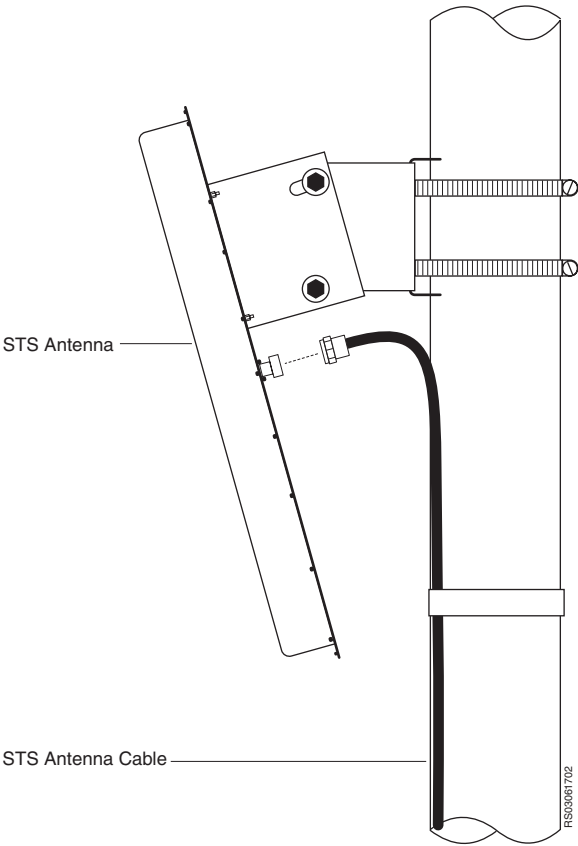

Figure 3.3 Installing the STS Antenna
1. Connect the STS antenna cable to the antenna, as shown in Figure 3.3 on page 27.